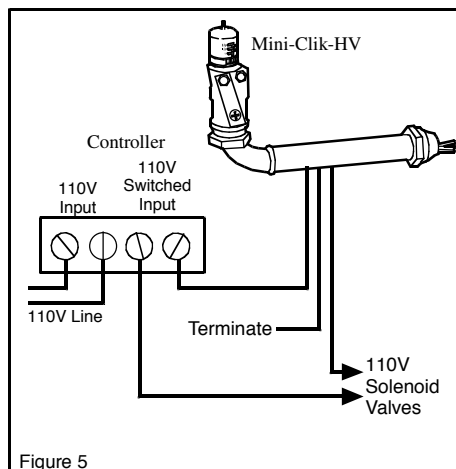

Figure 5
C. Special Instructions for Mini-Click-HV (See Figures 5 and 6)